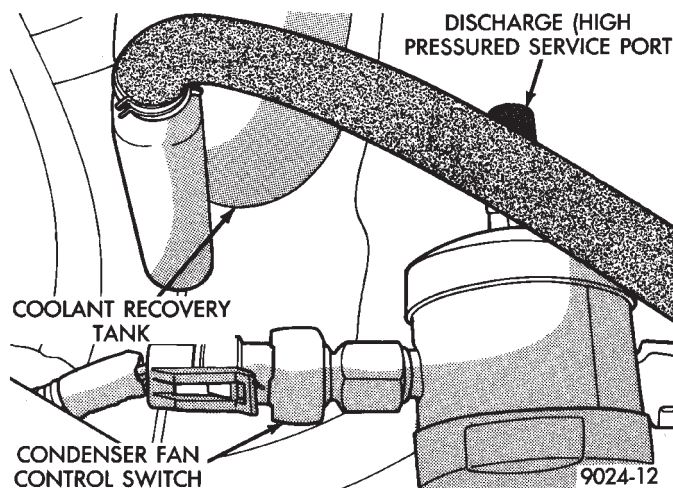

Fig. 15 Condenser Fan Control Switch
The Fan Control Switch is located on the plumbing discharge line at the A/C compressor (Fig. 15).
(1) Remove and replace the aluminum gasket on the evaporator sealing plate.
(2) Carefully hold the expansion valve to the evaporator sealing plate (do not scratch sealing surface). Install two attaching screws and tighten to 11 ± 3 N•m (100 ± 30 inch lbs.).
(3) Remove and replace the aluminum gasket (Fig. 15) on the refrigerant line-sealing plate assembly.
(4) Carefully hold the refrigerant line-sealing plate assembly to the expansion valve, install bolt and tighten to 23 ± 3 N•m (200 ± 30 inch lbs.).
(5) Connect wires to low pressure cut-off switch.
(6) Evacuate and recharge system.
(7) After expansion valve is installed, system is charged, and leaks have been checked, repeat A/C performance check.